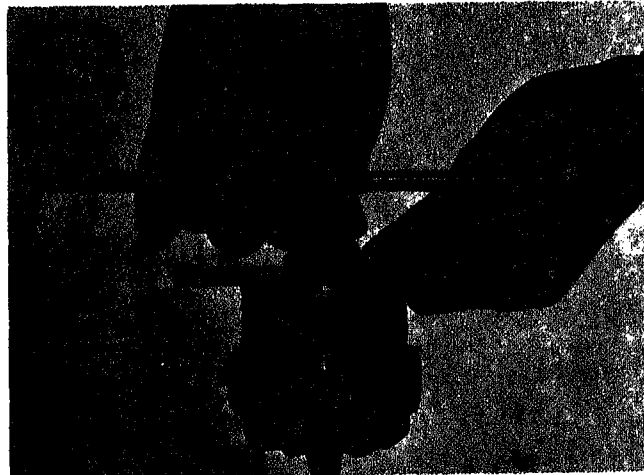

Fig. 504-1 Pulling needle bearing
4. Pull any damaged needle bearings, when used, with ST-544 Puller. Fig. 504-1.